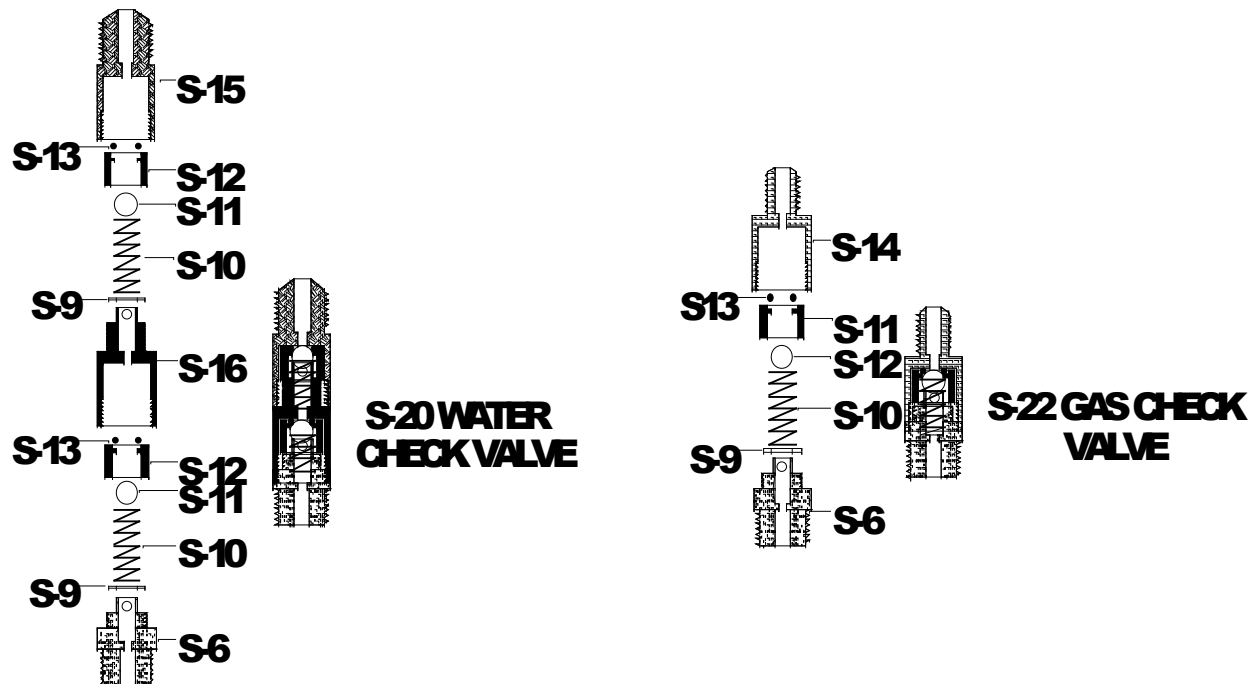

FIGURE 5-2 CHECK VALVES
2. Remove one check valve from other, then disassemble each check valve as shown in Figure 5-2.
4. Reassemble each check valve as shown in Figure 5-2.